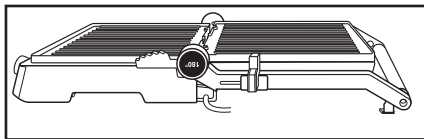

Fig. 2
- 3) The hotplates 10 are now positioned next to each other and can be used as a table grill (Fig. 2).